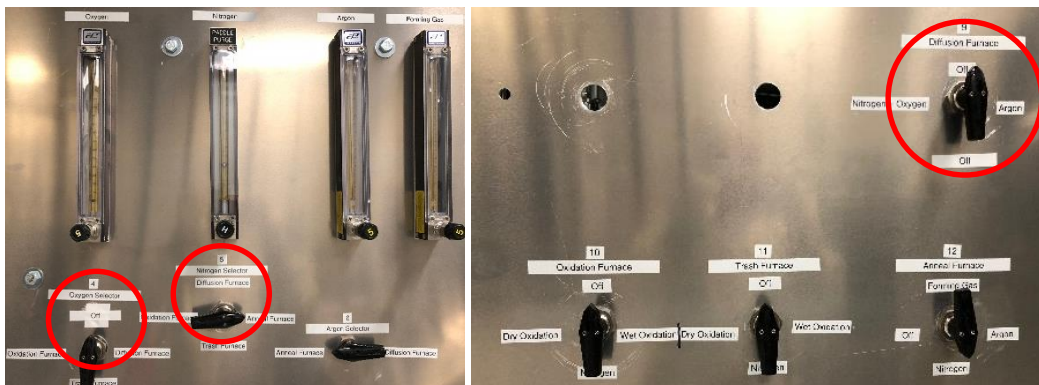

Figure 6
- Set the Oxygen Selector (4) to the Diffusion Furnace and Nitrogen Selector (5) to the Diffusion Furnace position, and choose the Dry Oxidation Diffusion on the Furnace selector (11) (Figure 6).